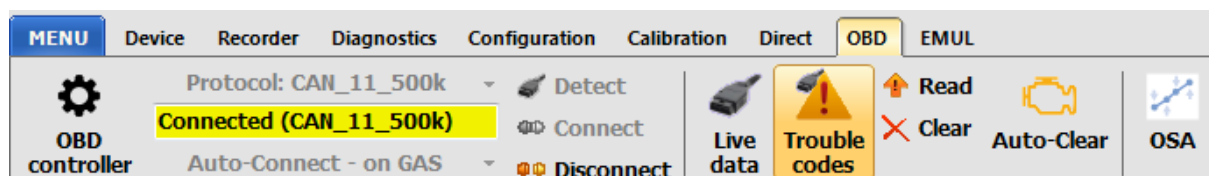

Fig. 2.124 Ribbon elements for the OBD tab
- **OBD controller** – information about the connection with the car controller (**Fig. 2.124**).